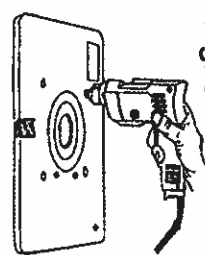

Fig. 8
7. Remove clamps, flip plate face up and countersink your mounting holes using 82° \* countersink bit (Fig. 8). Mounting screws should sit just below flush.